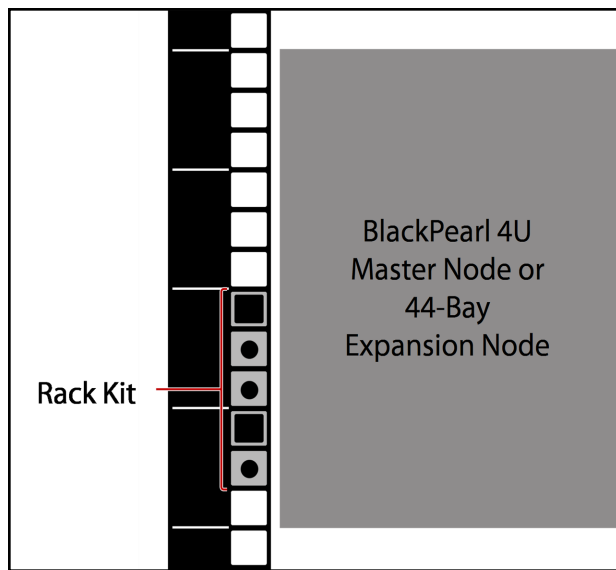
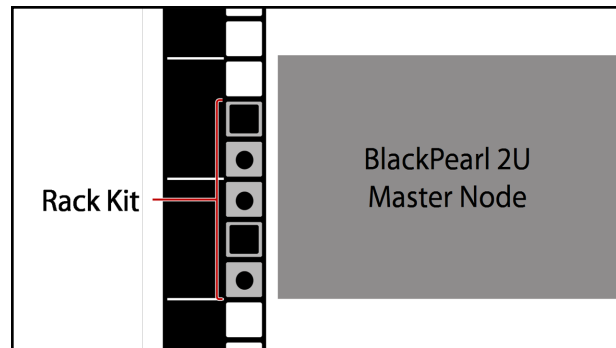

Figure 19 Relationship between rack kit position and the position of the 4U chassis.
Figure 20 Relationship between rack kit position and the position of the 2U chassis.
6. Determine the vertical position of the rack mount kit in the rack. Figure 19 and Figure 20 show the relationship of the rack kit position in the rack and the resulting position of the chassis.